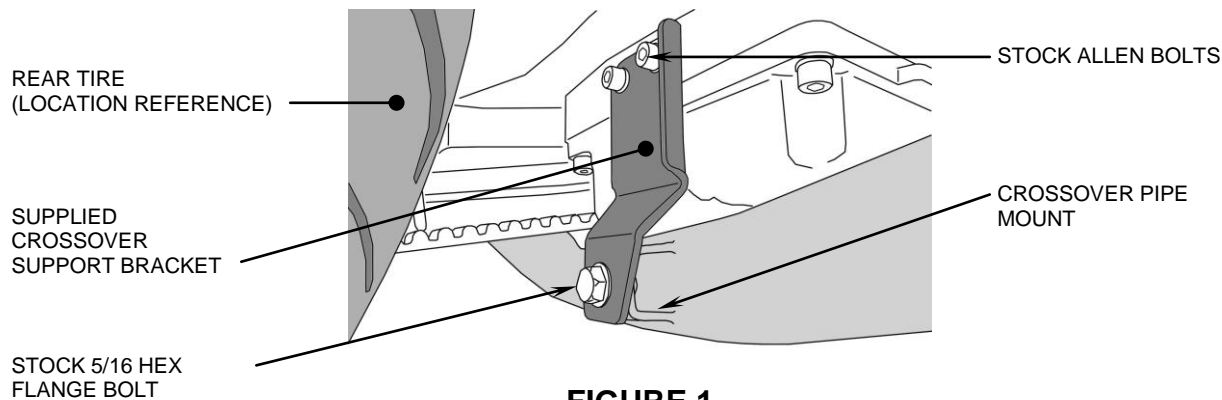

FIGURE 1
3. Unplug the (2) O₂ sensors on the front and rear headpipes from motorcycle wire harnesses.
4. Remove the stock crossover headpipe support bracket by removing the (2) stock allen bolts located on the backside of the transmission pan underneath the motorcycle. Remove the 5/16 hex flange bolt that fastens the bracket to the exhaust pipe. Save all (3) bolts for later use but discard the bracket. See Figure 1 for location.
12. Install the supplied crossover support bracket to the stock mounting location, described in Step 4, using the (2) stock allen bolts removed in Step 4 and tighten. Adjust the crossover pipe assembly for and aft so the welded mount rests flush against support bracket, then align the holes and fasten with the stock 5/16 hex flange bolt removed in Step 4. See Figure 1. Make sure the crossover pipe has clearance and does not make contact with the transmission pan; adjust as needed while bolts are loose.